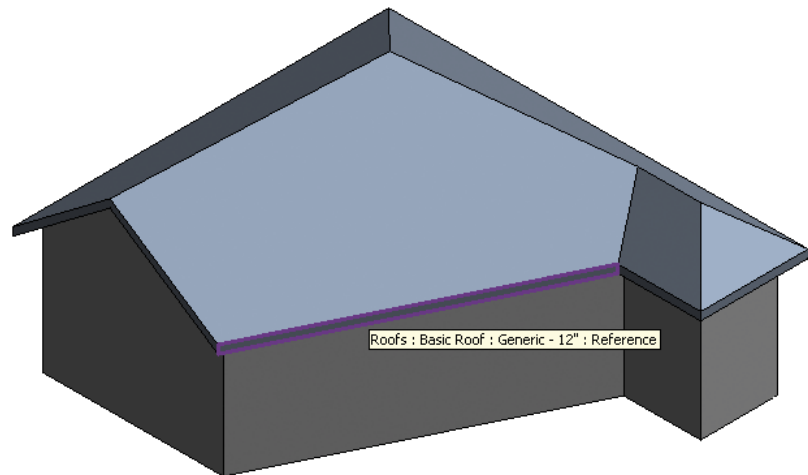

FIGURE 3.19 Selecting the roof face
1. Select the Roof by Extrusion command from the Roof flyout on the Architecture tab. The Work Plane dialog should prompt you to specify a new work plane. Choose the Pick a plane option and select the roof face highlighted in Figure 3.19.